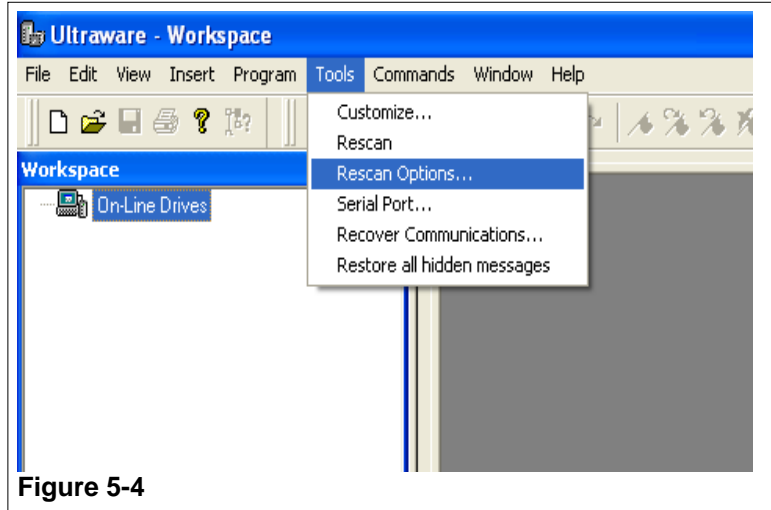

Figure 5-4
- a. Select Tools and then Rescan Options. (Figure 5-4)